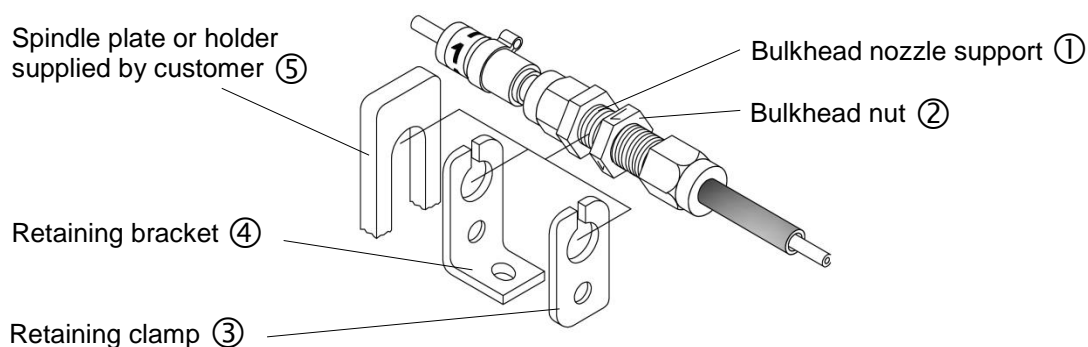

Fig. 5: Bulkhead nozzle support
- 4.5 The bulkhead nozzle support (Fig. 5 ① M10x1, clamping length $s \leq 10$ mm) is fixed by the bulkhead nut (Fig. 5 ②) close to the place of use, e.g. in a spindle plate (Fig. 5 ⑤ supplied by the customer) or fastened by means of a retaining clamp (Fig. 5 ③ option) or retaining bracket (Fig. 5 ④ option), so that the nozzle can be oriented in the optimal direction and at the shortest possible distance from the lubrication point or point of need (e.g. at the tool) (see separate TECHNICAL SPECIFICATIONS "Nozzle support" and "Lubricant film application").